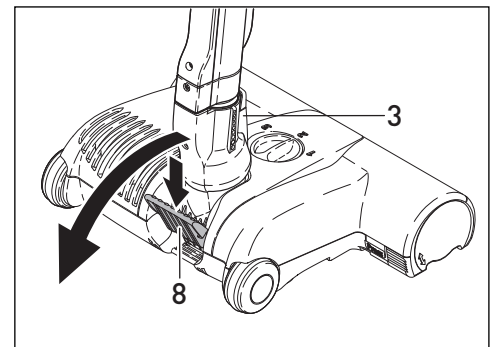

Figure 2
**A.** When the power head is switched on with the swivel neck (#3, figure 2) in the upright locked position, the brush roller will not spin and the on/off light will illuminate in yellow\*. To release the power head from the upright locked position, press down on the foot pedal (#8, figure 2) and lower the swivel neck into the normal operating position. The brush roller will then start spinning and the on/off light on the power head will illuminate in green\*.
By pushing the foot pedal (#8, figure 2) and lowering the swivel neck, you activate the power head and the brush begins spinning. Failure to use the foot pedal will cause lasting damage to the machine. The electronic brush control constantly monitors the status of the brush, communicating the status through the lights on top.